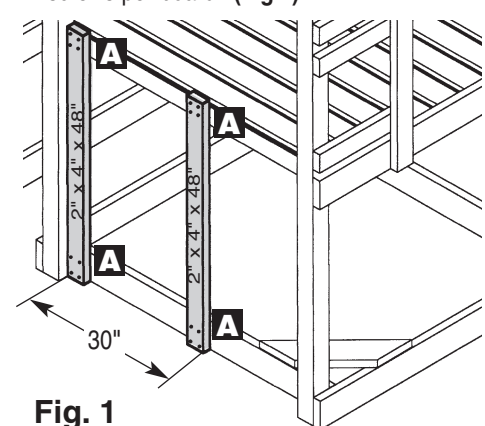

Fig. 1
1. Install two 2" x 4" x 48" vertical rails at dimensions shown. Secure to base and deck support using eight #8 x 2 1/2" deck screws per board. (Fig.1)